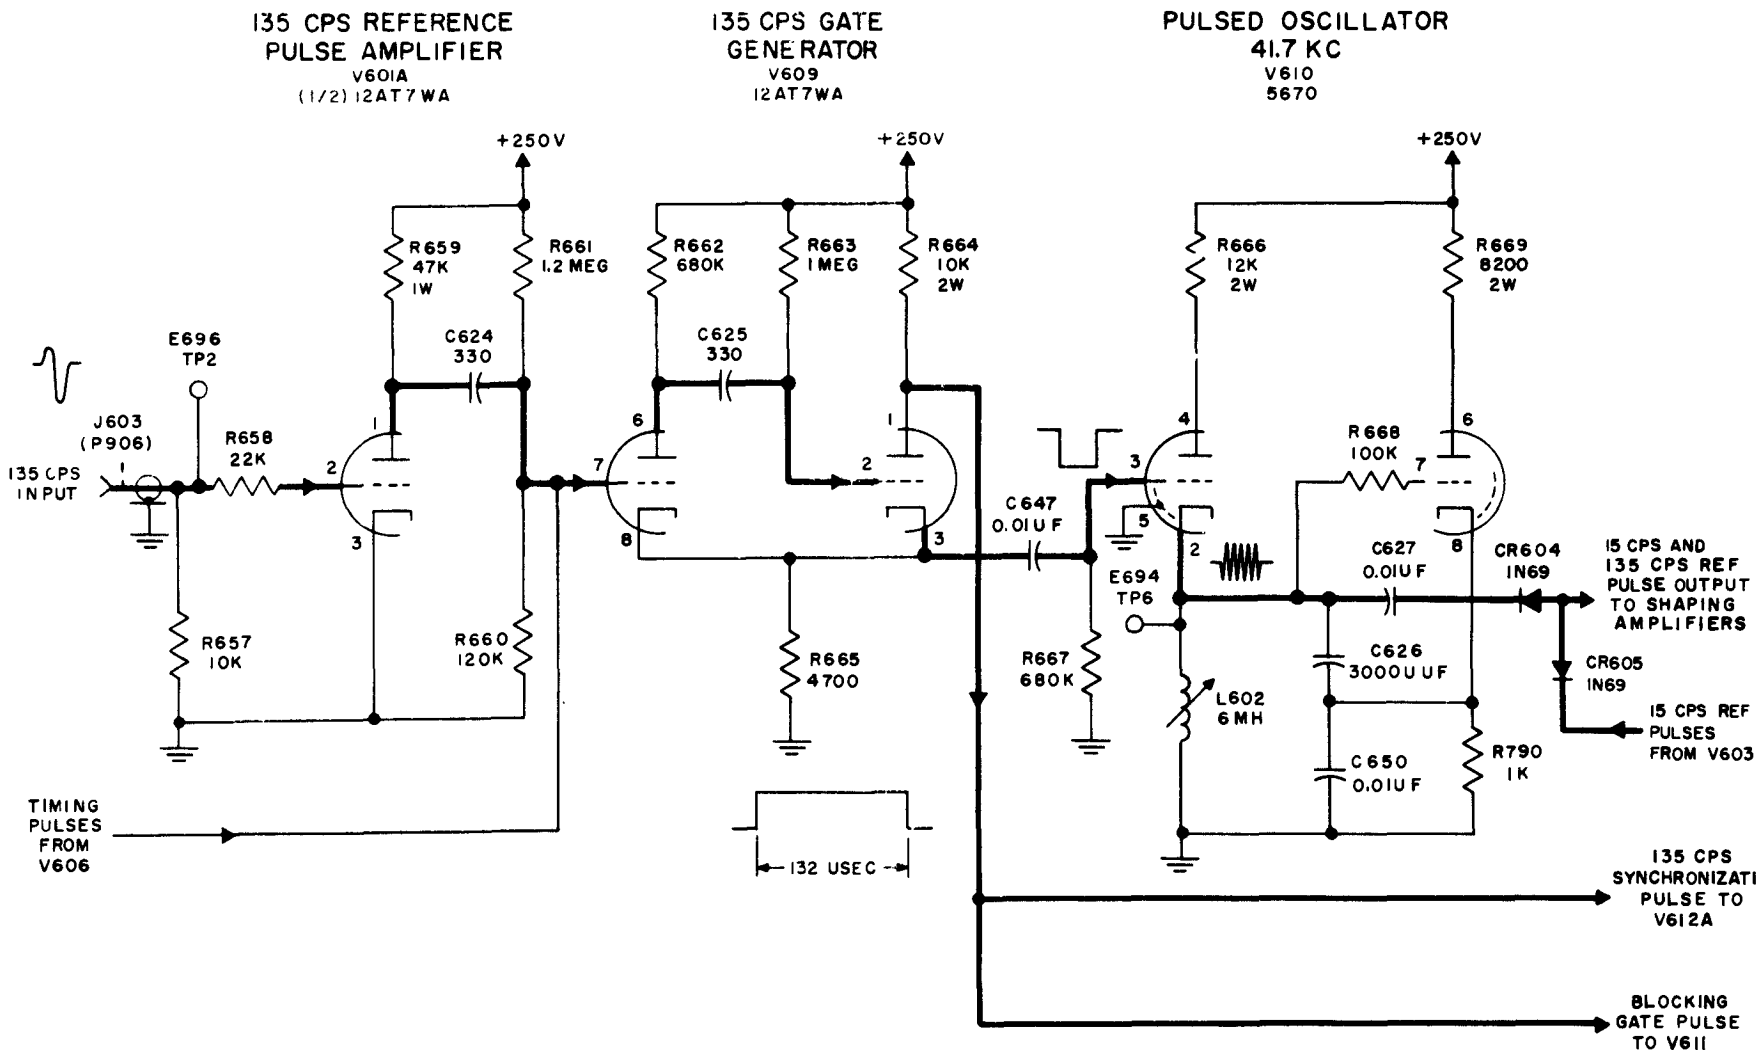
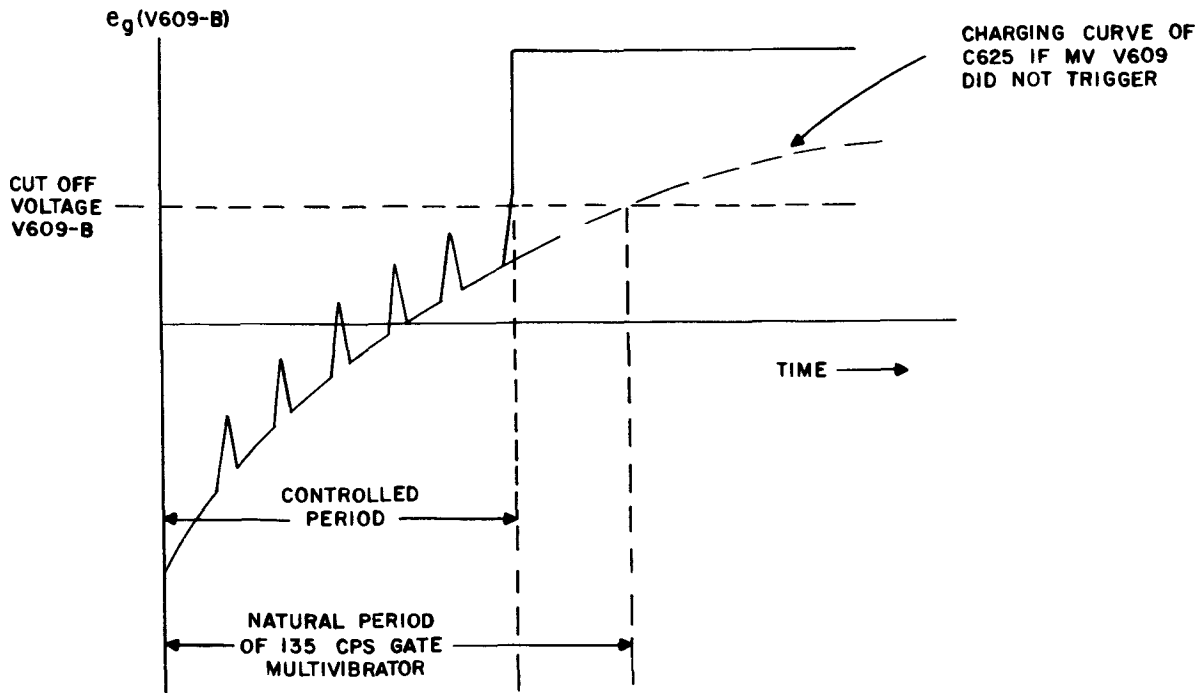

Figure 4-23. Coder-Indicator KY-382/GRN-9D, 135-CPS Reference Burst Generator, Simplified Schematic Diagram
Figure 4-24. Coder-Indicator KY-382/GRN-9D, V609B Grid Voltage Curve During Charge Time of C625
**GENERATOR.**—This stage consists of tubes V601A, V609, and V610. Figure 4-23 illustrates the 135-cps reference generator. Pulse amplifier V601A receives the trigger pulse from the 135-cps pulsing coil of the antenna system. Since its cathode is grounded, bias to pulse amplifier V601A is zero. The trigger pulses from the antenna contain both positive and negative excursions; the polarity is chosen so that the positive occurs first. When fed into tube V601A, the positive excursion is clipped; grid current produces a voltage drop across potentiometer R658, reducing the net signal at the grid to almost zero. When the trigger pulse from the antenna is negative, a sharp change in plate current occurs. This sharp change triggers multivibrator V609, which functions as a 135-cps gate. Stage V609 is a one-shot keying multivibrator which, because of the circuit constants used, has a natural period longer than the time required for the generation of six pulses by the 41.7-kc pulsed oscillator. When tube V609 is in a stable condition, tube V609B is conducting owing to B+ applied to the grid through potentiometer R663. Because of the cathode bias developed across resistor R665, tube V601A is cut off. When a positive pulse is applied to the grid of triode V609A, plate current flows, producing a negative pulse which is coupled to grid pin 2, cutting off the plate current in tube V609B. This action causes development of a positive pulse on the plate of tube V609B and a negative pulse on the cathode. The positive pulse is fed to priority gate V611 as a blocking gate, and the negative pulse keys 41.7-kc oscillator V610. Pulses originating in keyed oscillator V610 are fed back from the output of tube V606 after passing through shaping and amplitude setting circuits to the grid of tube V609A, where they appear as small negative spikes. The natural period of multivibrator V609 is determined by the time constant of the R-C circuit, potentiometer R663 and capacitor C625. Section V609B remains cut off until capacitor C625 charges from the B+ supply through potentiometer R663. The feedback pulses originating in the pulsed oscillator ride on the charging curve of capacitor C625 (figure 4-24). Potentiometer R672 (figure 4-24), provides a means of adjusting the amplitude of the feedback pulses so that the sixth pulse will start tube V609B conducting and cut off the 135-cps keying gate pulse. The spacing between the 135-cps reference burst pulses is 24 microseconds at this point.